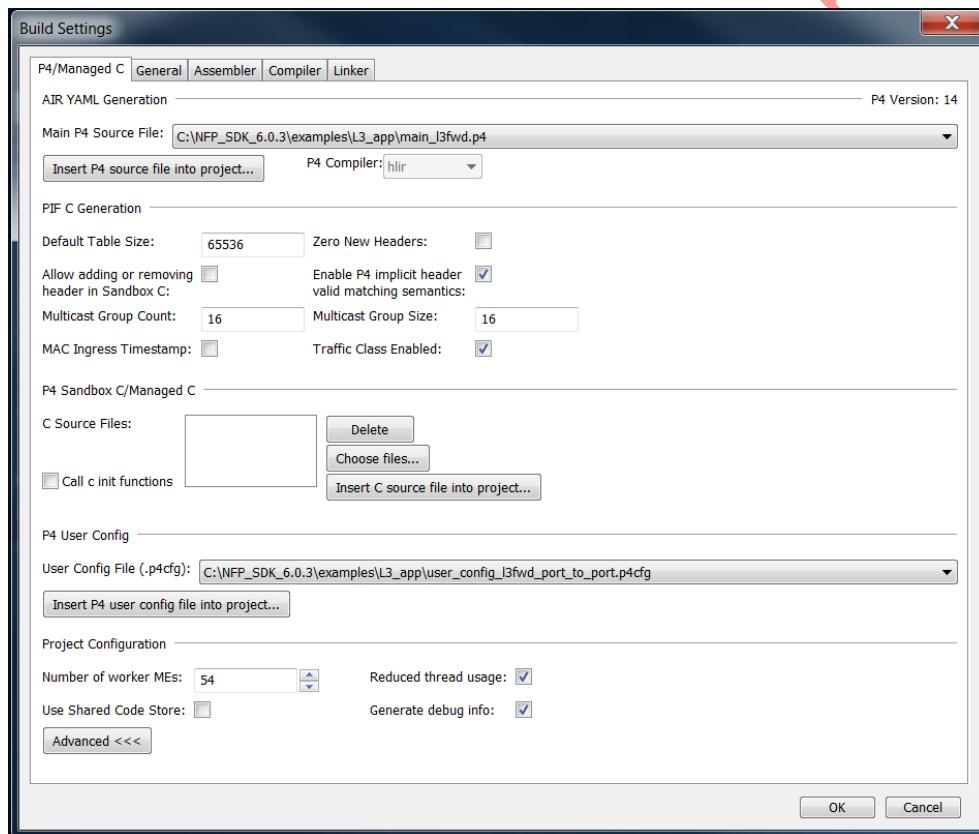

Figure 2.14. Build Settings P4/Managed C tab
2. Click the **P4/Managed C** tab if its not already selected (see Figure 2.14).